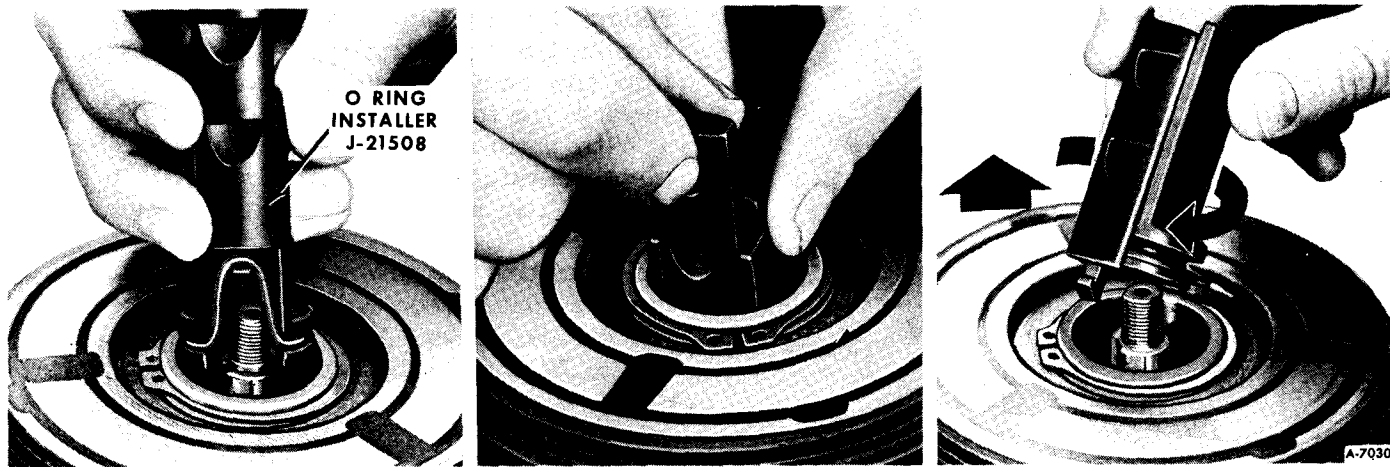

Figure 88—Replacing O-Ring
1. Coat new seal seat O-ring with clean 525 viscosity refrigerant oil and install in compressor neck, making certain it is installed in bottom groove (figures 88 and 89). Top groove is for retainer ring. Use O-ring installer J-21508.